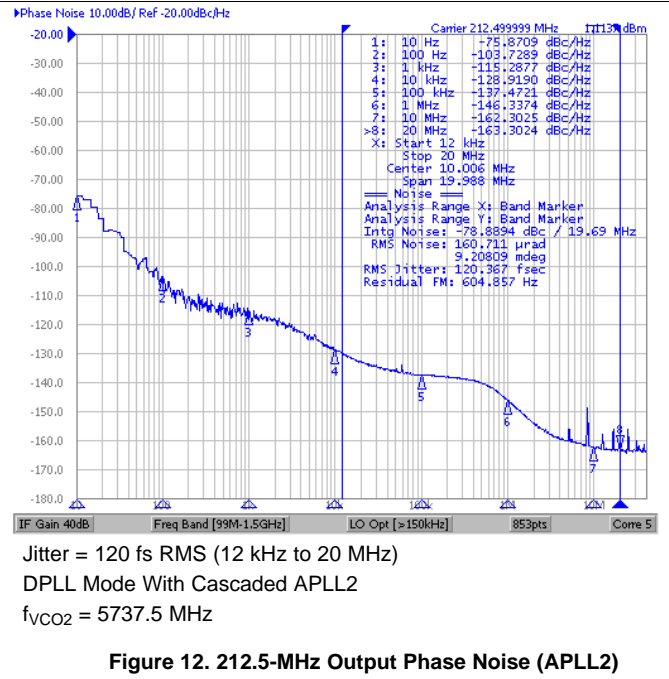

Figure 12. 212.5-MHz Output Phase Noise (APLL2)
**APLL2:** fPD2 = 138.8 MHz (fVC01÷18), BWAPLL2 = 500 kHz, Cascaded APLL2 mode for and Figure 12.
APLL2:  $f_{PD2} = 138.8 \text{ MHz}$  ( $f_{VCO1} \div 18$ ),  $BW_{APLL2} = 500 \text{ kHz}$ , Cascaded APLL2 mode for and Figure 12.